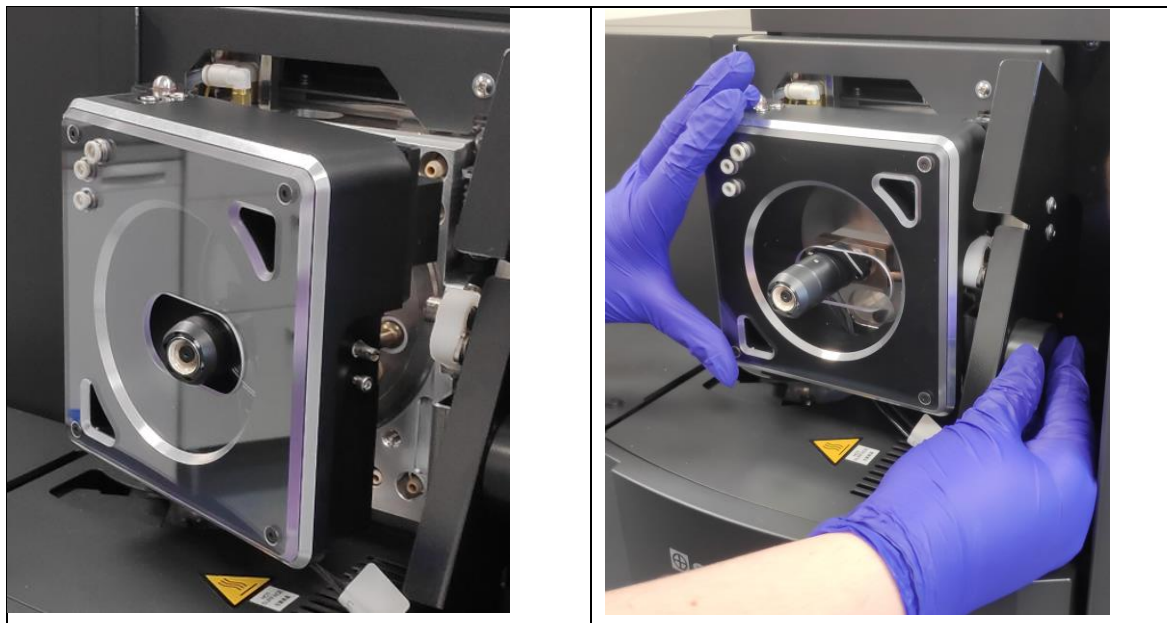

Figure 6: Hooking of SICRIT® Source Housing on the MS Inlet and closing the lock lever.
- Hook on the source housing into the hinges (see Fig. 6).